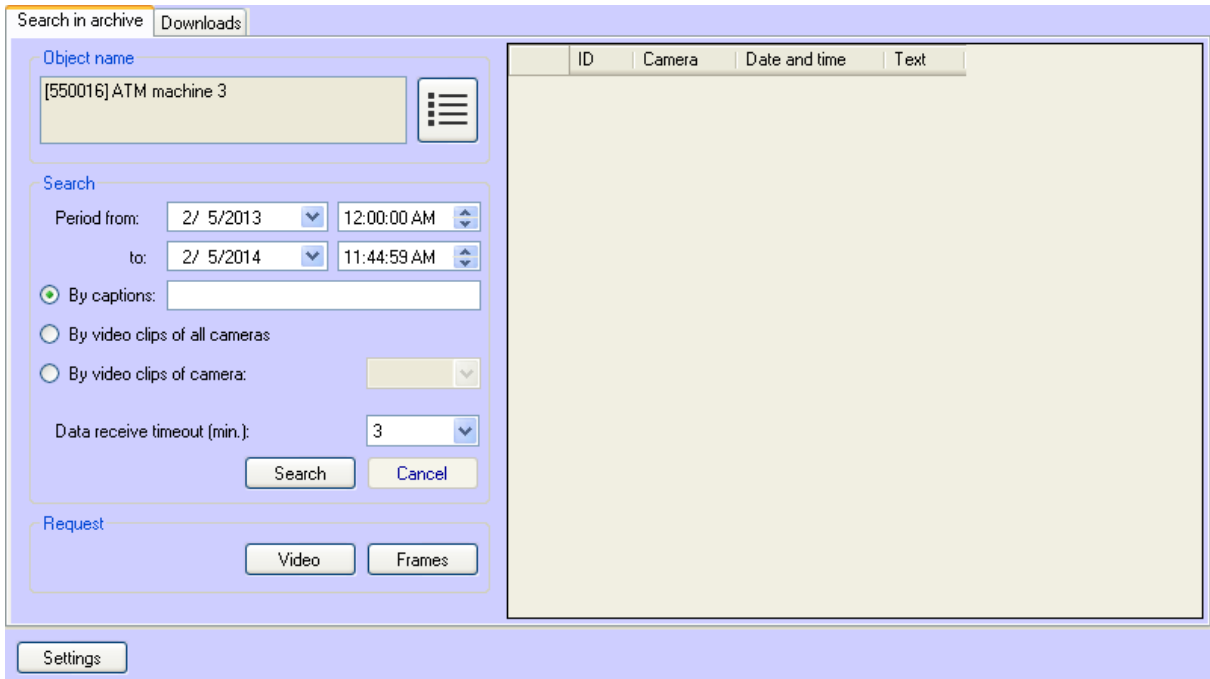

Fig. 5.2—1 Search in archive by captions
1. Ensure that the **Search in archive** component is displayed (Fig. 5.2—1).